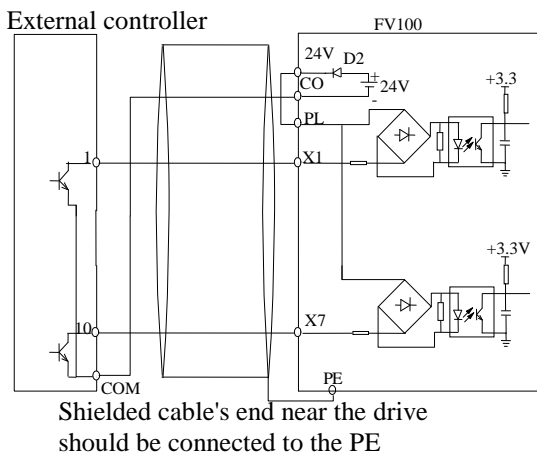

Fig.4-9 Use internal power supply
1) Use internal +24V power supply of VFD and the external controller uses NPN transistors whose common emitter are connected, as shown in the fig.4-9